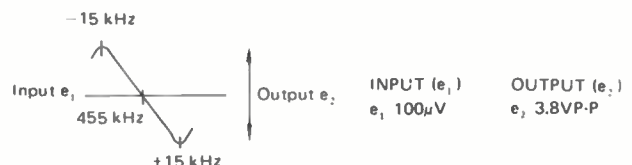

FIGURE 4. IF DISCRIMINATOR CURVE
- Step 3: Adjust IF Section T5, T6, T7 for best curve linearity and so the marker is in the center of the discriminator curve as shown in Figure 4.